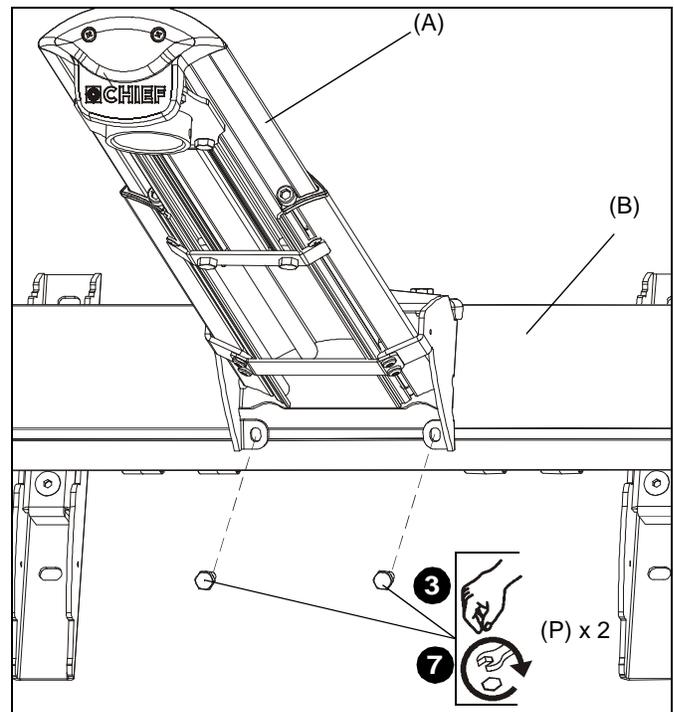

Figure 12
3. Install two 1/4-20 x 5/8" hex head bolts (P) through holes on WMA2S arm (A) and into sliding nuts on mounting bracket (B). DO NOT TIGHTEN SCREWS AT THIS POINT! (See Figure 12)
7. Tighten two bolts installed in Step 3. (See Figure 12)